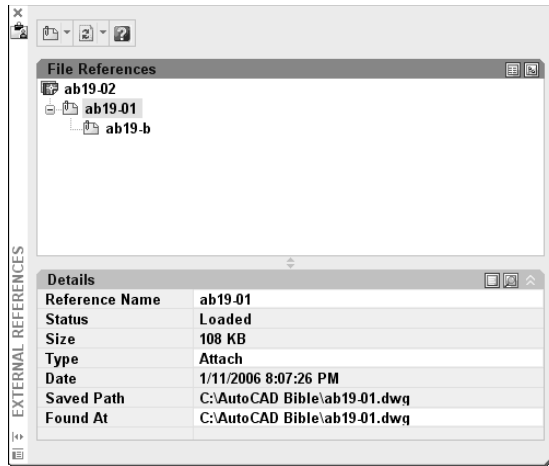

**Figure 19-3:** Tree view shows nested xrefs clearly.
9.  To help you visualize the relationships among the three drawings, choose External References from the Reference toolbar. The External References palette lists both drawings. Click Tree View at the top-right corner of the palette. You now see the two xrefs listed in a tree structure, showing their relationship more clearly, as shown in Figure 19-3. Close or Auto-Hide the palette.